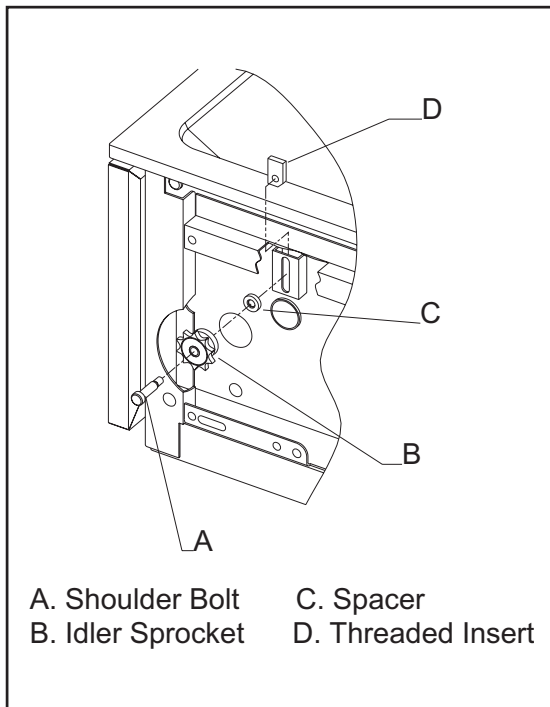

Figure 25. Idler Sprocket Assembly
1. Loosen shoulder bolt. See Figure 25.